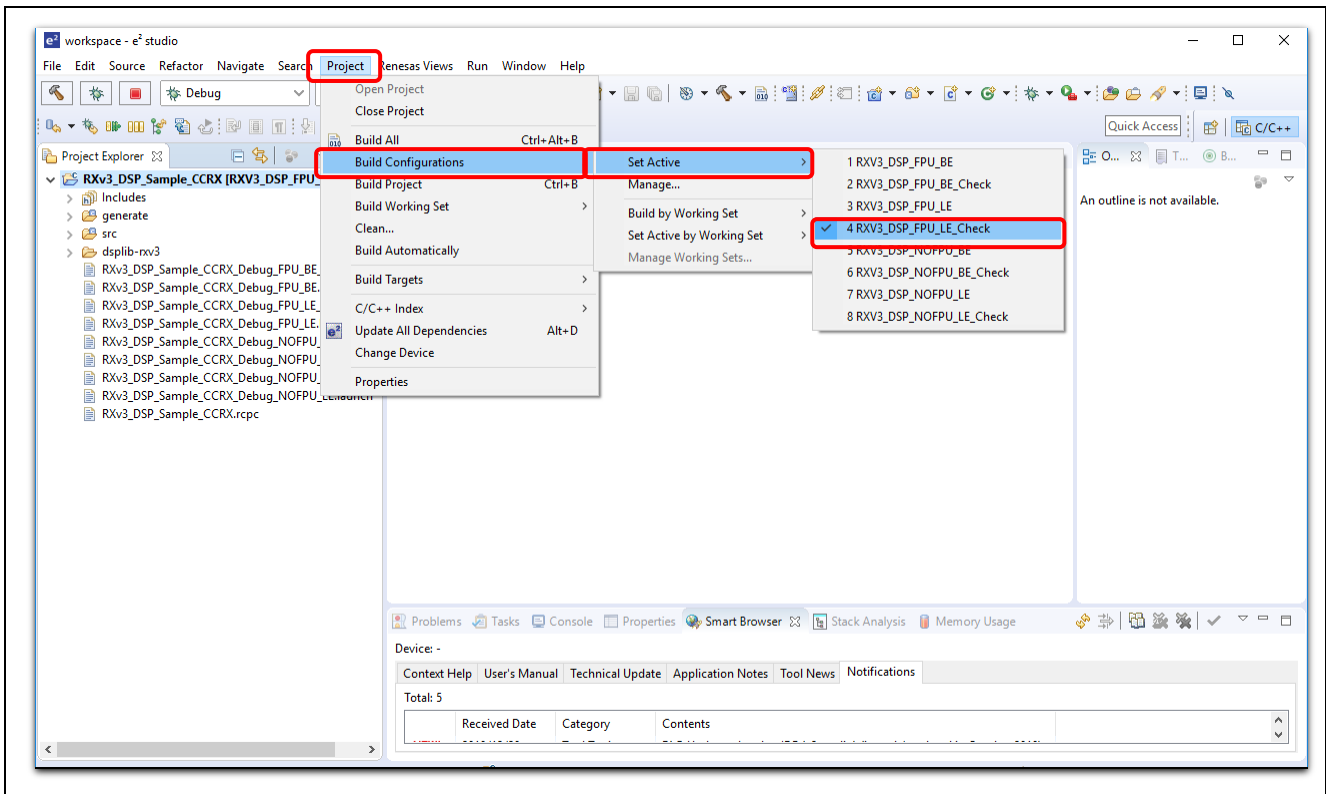

Figure 3-2 Selecting the build configuration in e2 studio
- As shown in Figure 3-2, click the “RXv3\_DSP\_Sample\_CCRX” project in Project Explorer, then from the menu select “Project” > “Build Configuration” > “Set Active” to select the desired build configuration. As shown in Table 2-3, there are eight build configurations. (Example: “RXV3\_DSP\_FPU\_LE\_Check” is selected.)